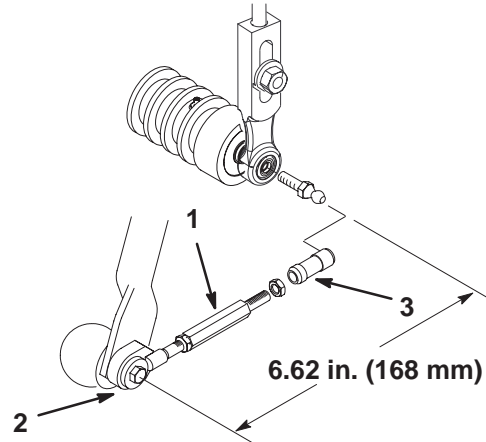

Figure 19
6. Slide the sleeve back on each ball joint receiver and hook the receiver onto the cutting unit ball stud (Fig. 19).
Note: The pull link assemblies are preset at the factory. If they ever need to be disassembled, reassemble them to the dimensions shown in Figure 19.